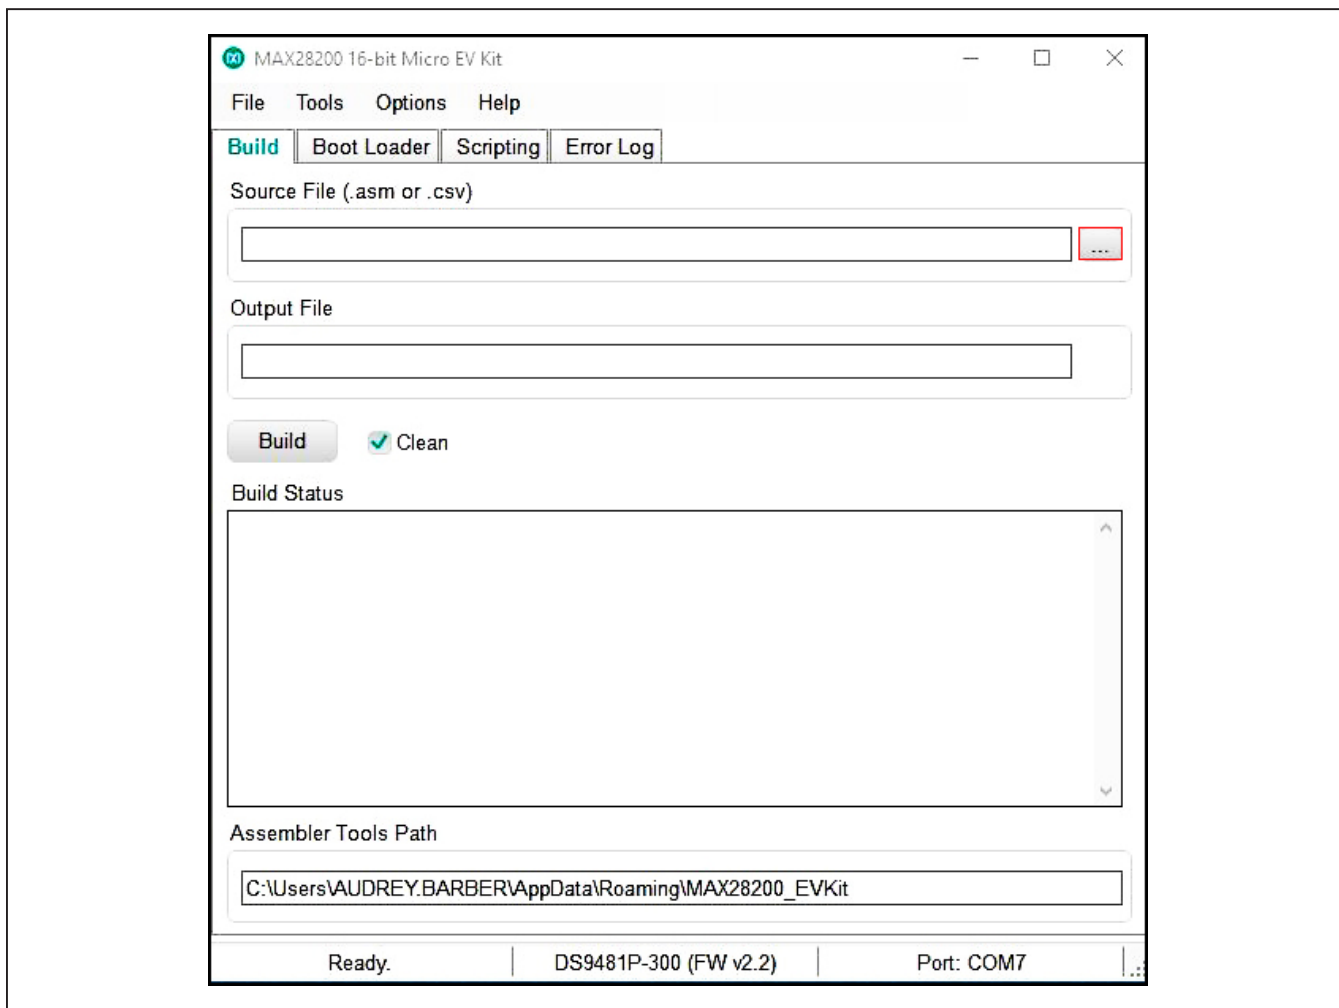

Figure 12. Select an .asm File from the Directory to Convert into .hex File
2) On the **Build** tab, click the ... button to the right of the **Source File** text box to select an .asm file (Figure 12).